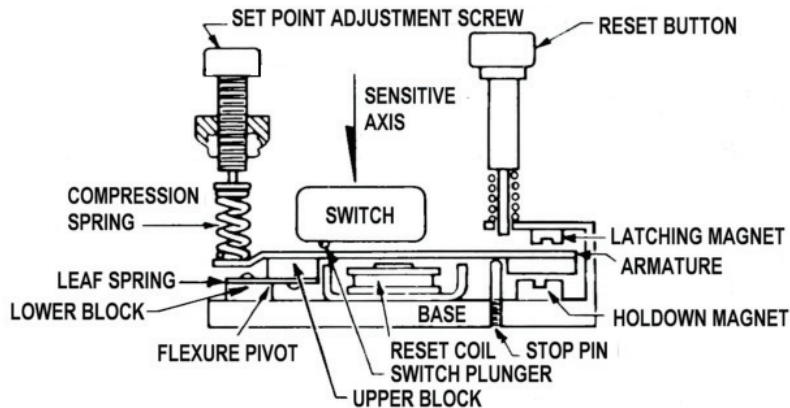

Figure 4-1. Operating Principal for the Vibraswitch®, Model 365A & E365A
The Model 365A & E365A **Vibraswitch®** (Ref. Figure 4-1) is sensitive to vibration in a direction (the sensitive axis) perpendicular to its mounting base. It contains an acceleration sensitive mechanism, which also functions as a “mechanical amplifier”, to activate a snap action switch when the selected level of vibration is exceeded and the detecting mechanism “trips”.
With the equipment on which the Vibraswitch® is mounted not operating, back off the SETPOINT adjustment screw counterclockwise (CCW) two (2) turns and press the RESET button. Then turn the SETPOINT adjustment screw slowly clockwise until actuation occurs (the armature assembly is against the latch magnet, Figure 4-1). This is the zero vibration point, or actuating point, with the machine not operating. A mark should be made with a pencil or other convenient means to permanently record this “zero” vibration point. Subsequent measurements are made relative to this point.
5.1 FUNCTIONAL TEST (Ref. Figure 4-1)
2. Broken leaf spring (Refer to Figure 4-1).